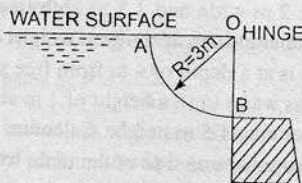

Fig. 3.58
19. Fig. 3.58 shows a gate having a quadrant shape of radius of 3 m. Find the resultant force due to water per metre length of the gate. Find also the angle at which the total force will act. [Ans. 82.201 kN , $\theta = 57^\circ 31'$]